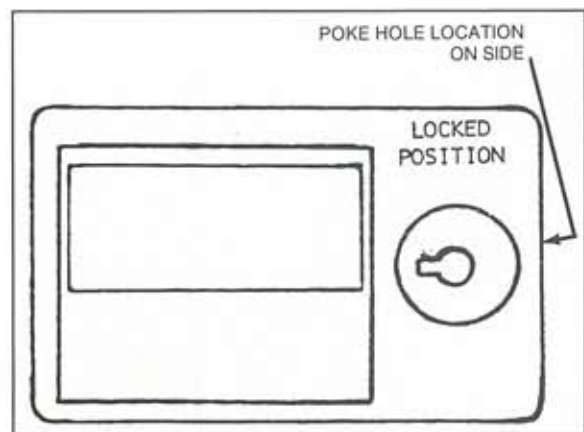

FIGURE 2
4. With tension wrench or key in position, apply light load and depress retainer tumbler through poke hole, right side of latch assembly (Fig. 2).